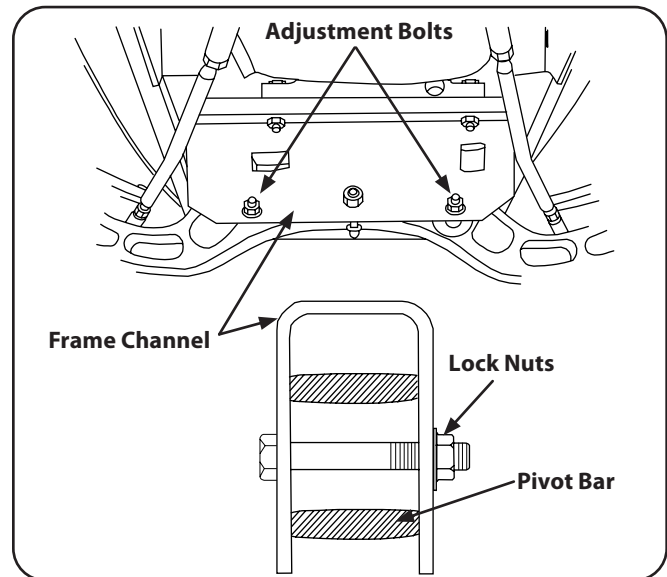

Figure 6-12
2. Move the ends of the pivot bar up and down to check for binding. If binding is present, loosen the lock nuts until binding is eliminated. See Figure 6-12.